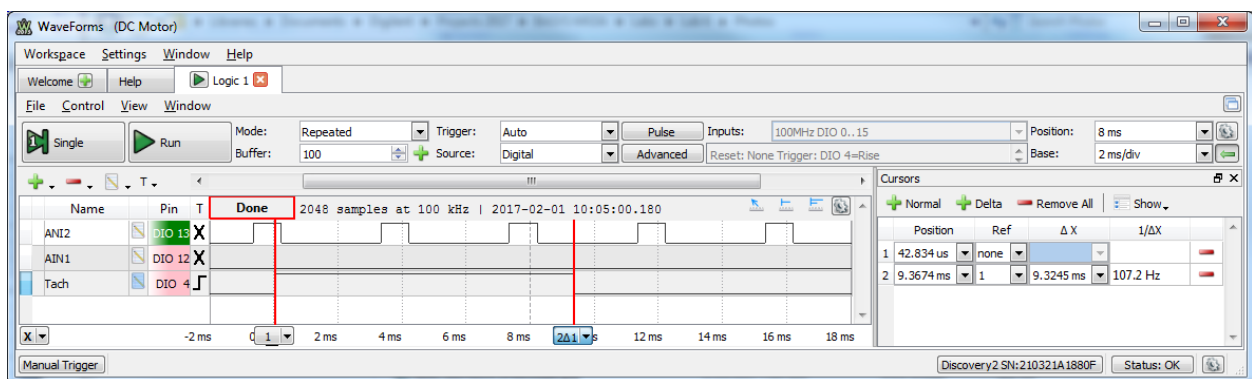

Figure 8.3. Tachometer timing for 106 Hz Display on LCD.
The range of 30% to 90% is selected on the characteristics of the DC motor we are using for Lab 6a and 6b. By experimentation, it was determined that when the motor supply is set to 5.0 V, the %PWM must be set above 25% to 28% or the motor will not turn as shown in Fig. 8.3 of Lab 6a. If the motor is not turning, then there are no input capture interrupts to set the RPS variable in the control algorithm.
- c. Measure the tachometer frequency using the oscilloscope measurements as shown in Fig. 8.3.